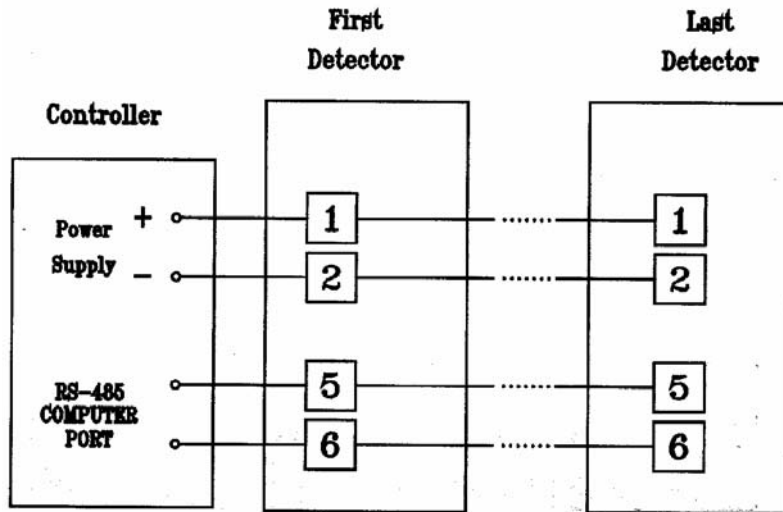

Figure B-2. RS-485 Wiring
- For RS-485 wiring, see FIGURE B-2. To ensure good RS485 communications, also daisy-chain the RS485 return connection (pin 9) to the controller.